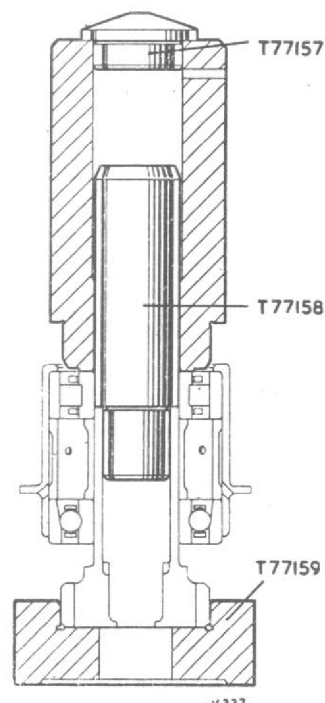

Fig. 13. Pressing the vertical accessory drive assembly on to the driven gear
- (8) Position over the guide adapter, the housing assembly with the flange downwards, the inner distance piece and the inner race of the roller bearing, serial number outwards.
- (9) Using adapter T77157, press the housing on to the gear (fig. 13).
- (10) Place the bevel gear on vice block T77161.
- (11) Position the driven gear assembly over the shaft of the bevel gear, mating the splines on the bevel gear shaft with the splines in the bore of the driven gear.
- (12) Position a new cup locking washer (Part No. N.3199) and the ring nut to the shaft.
- (13) Using spanner T79293 and torquometer wrench TQ352 tighten the nut to the torque figure specified in Chapter 22.
- (14) Lock the nut by lightly tapping the cup-washer into the serrations of the nut at two opposite positions.
- (15) Position the bearing housing cap to the housing.